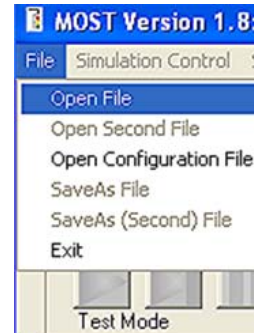

Figure 4 Open file
- From the MOST interface, select "Open File" as shown in Figure 4.